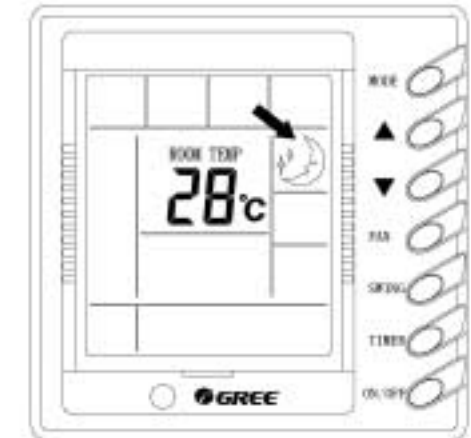
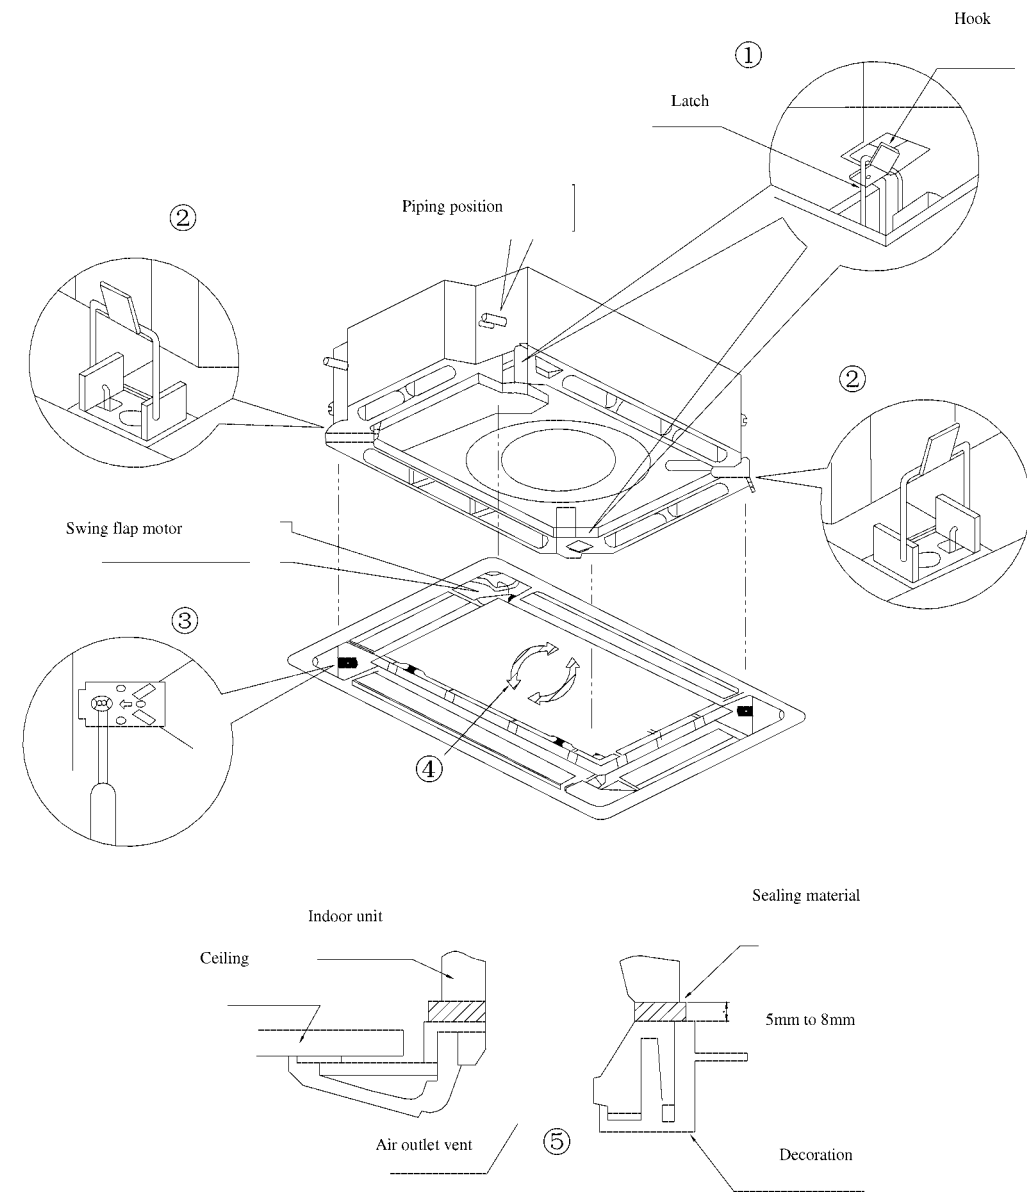

Fig4
Fig.16
3) SLEEP SETTING (Fig.4)
1. Set the panel to the indoor unit body by matching the position of the swing flap motor of the panel to the piping position of the panel to the piping position of the indoor unit as shown by fig.16.
- ① Install the panel on the indoor unit temporarily. When install, hang the latch on the hook that is located on the oppsite side of the swing flap on the panel of the indoor unit. (2 positions)
- ② Hang the remaining 2 latches to the hooks on the sides of the indoor unit.(Be careful not to let the swing motor lead wire get caught in the sealing material.)
- ③ Screw the 4 hexagon head screws under the latches in about 15mm. (The panel would raise)
- ④ Adjust the panel by turning it toward the direction pointed by the arrow as shown in fig.4, so that the adjust board connect the ceiling well.
- ⑤ Tighten the screws untill the thickness of the sealing metarial between panel and indoor unit reduced to 5-8mm.